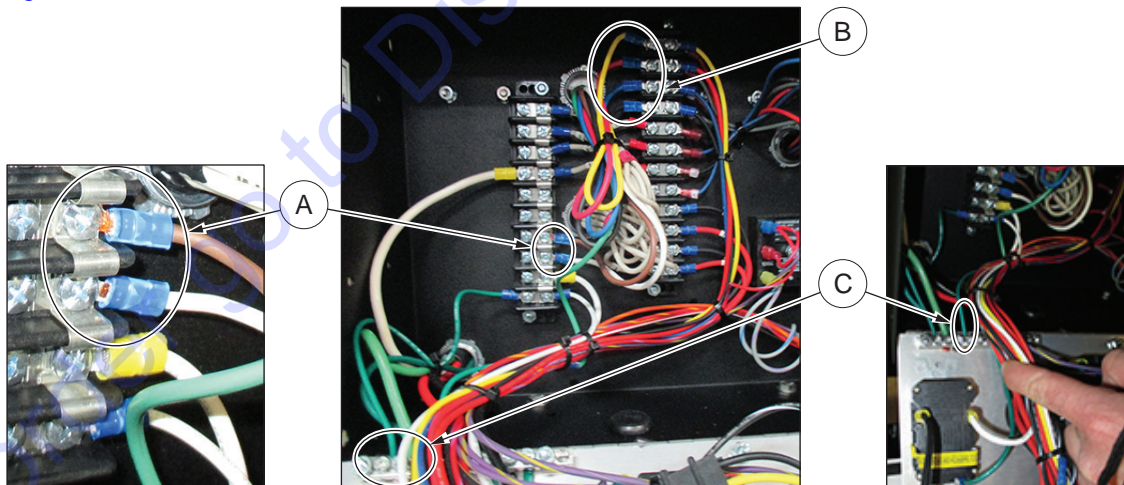

Figure 23 - Connect Mast Wires
10. See Figure 23. Connect mast wires, as shown.